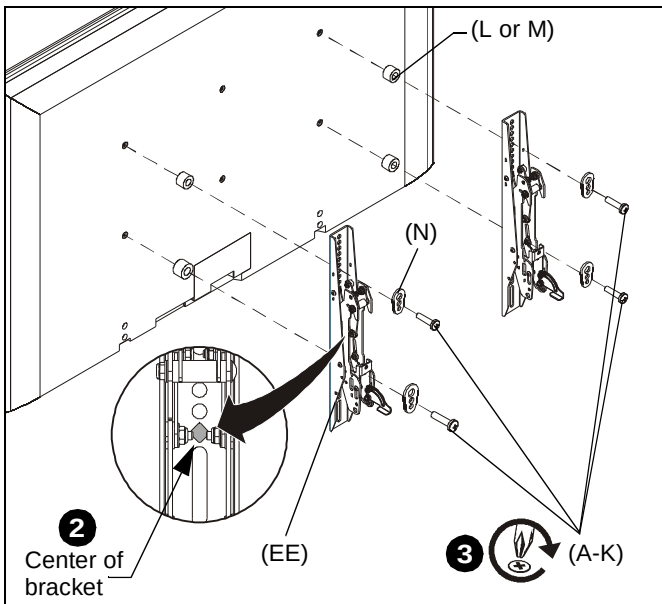

Figure 8
2. Align the center of the interface bracket (EE) with center of screen. (See Figure 8)
3. Select correct screws, spacers (if necessary) and universal washers from the hardware bag (A-N) and attach brackets (EE) to back of screen. (See Figure 8)